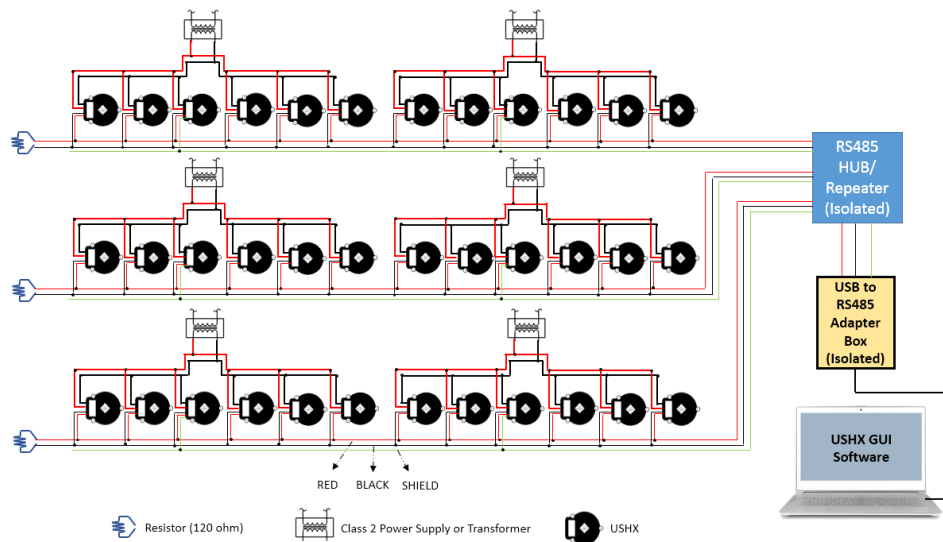

Figure 3-6 Multiple USHXs-to-RS485 hub/repeater networking
- RS485 allows up to 32 nodes (or USHXs) to be connected on one channel (or daisy chain). **Figure 3-6** below shows an example of three daisy chains of 12 USHXs each.
14. At the end of each daisy chain, install a 120 Ω termination resistor, as shown in **Figure 3-6**.